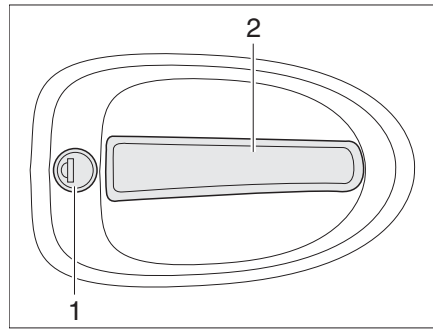

Fig. 40 Door lock of conversion door, outside
- Insert the key into locking cylinder (Fig. 40,1) and turn until the door lock is unlatched.
- Pull on the handle (Fig. 40,2). The door is open.
- Insert the key into locking cylinder (Fig. 40,1) and turn until the door lock is engaged.